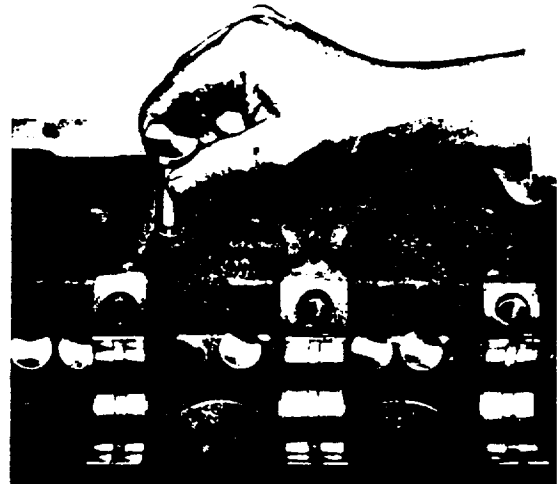

Fig. K.13.
8. If desired the tappets may now be withdrawn after the sump has been removed (see Fig K.13).
1. If the tappets have been removed refit them in their locations (see Fig. K.13).